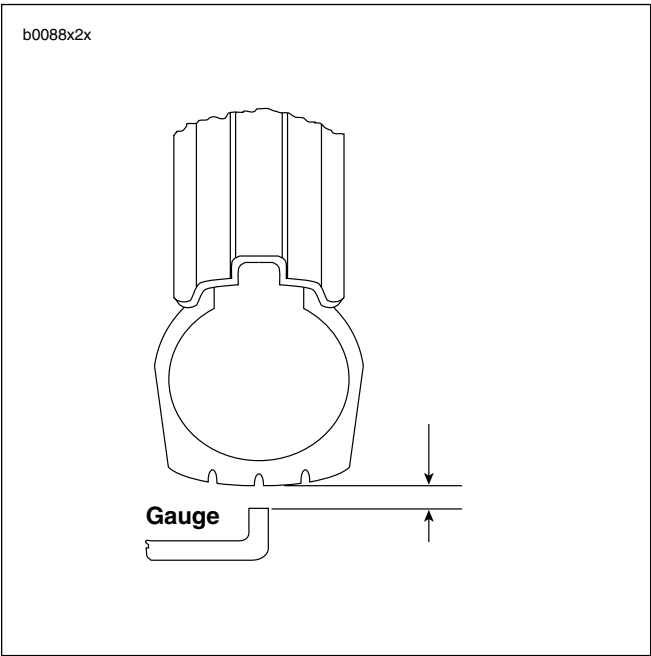

Figure 2-34. Checking Tire Radial Runout
- 1. See Figure 2-34. Turn wheel on axle and measure tire radial runout.